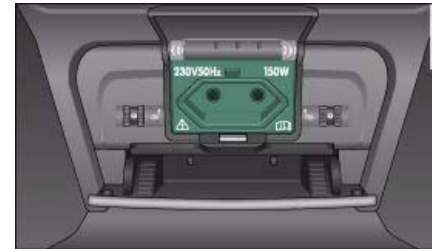

Fig. 100 Rear centre console: 230 Volt Euro socket
- Fold up the lid ⇒ *page 87*, fig. 100 to access the socket. ►